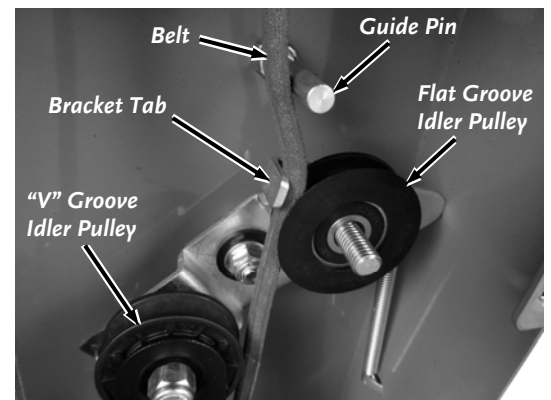

Figure 27
10. Install the small Spacer first, then the Flat Groove Idler Pulley with the Belt in the groove. Make sure you place the Belt correctly between the Idler Pulley, Bracket Tab, and Guide Pin (**Figure 27**).
4. Remove the four Transmission Cover Bolts and Flat Washers with a 3/8" Wrench. Remove the Transmission Cover (Figure 27).